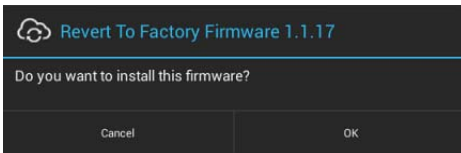

FIG. 94 System Prompt - Revert To Factory Firmware?
2. A System Message window is displayed that indicates the factory firmware version that will be installed, and prompting you to verify this action (FIG. 94):